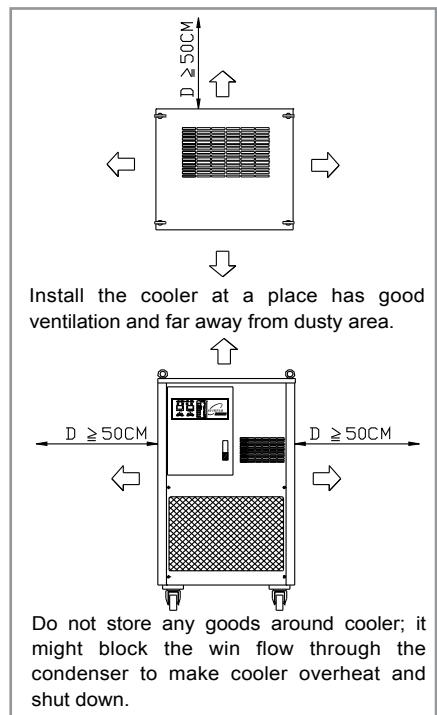

Figure 5
- (1)The cooling temperature for cooler is between 25~35°C. And the room temperature should be 5~40°C to ensure cooler's cooling capacity.
- (2)Install the cooler at a place has good ventilation and far away from dusty area.
- (3)Install the cooler on the leveled ground. Slant installation is strictly prohibited.
- (4)Install the cooler far away from water spraying area.
- (5)Do not store any goods around cooler; it might block the win flow through the condenser to make cooler overheat and shut down. (See Figure 5)
- (6)Do not install the cooler at outdoors. To prevent the cooler from direct sunlight, also away from heat source area.